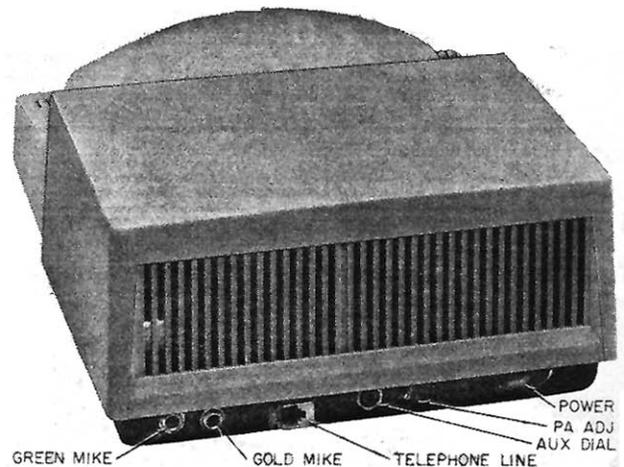

Fig. 2—Part of 50A1 Conference Set, Rear View
3.03 Install telephone line cord, ac power cord, and, as required, microphones or auxiliary TOUCH-TONE dial telephone set to the appropriate jacks located on rear of control unit (Fig. 2).
3.04 Provision is made for reproducing both transmitted and received signals over a customer-owned public address system. A public address adjustment (PA ADJ) (Fig. 2) control is located on the back of the set for adjusting the level of the transmitted signal at the PA terminals. Connections to the public address system are made